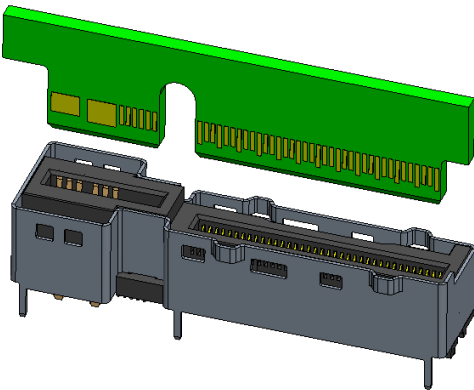

Figure 4-7 Combo x8+21A Power AIC Application
1. A single add-in card (AIC) can plug into the Vertical Combo DE x8+21A Power connector as shown in Figure 4-7.